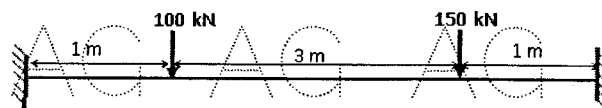

Figure: 1
- b) Determine the fixed end moments of a fixed beam subjected to the loads as shown in figure 1. [3]